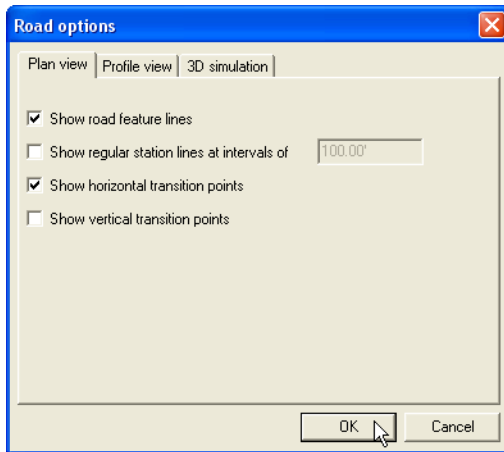

Figure 6-43. Set Plan View and Profile View Options
2. On the *Plan view* tab, select the desired parameters (Figure 6-43).